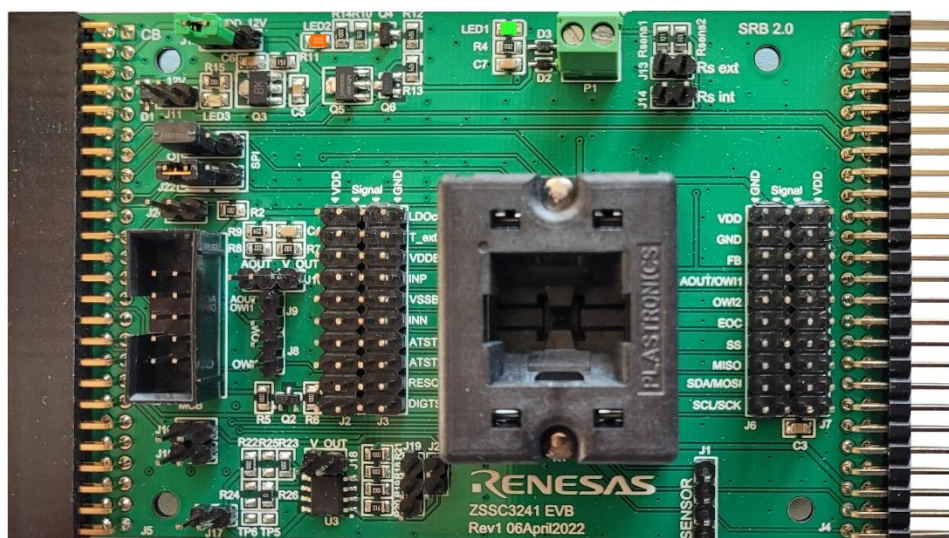
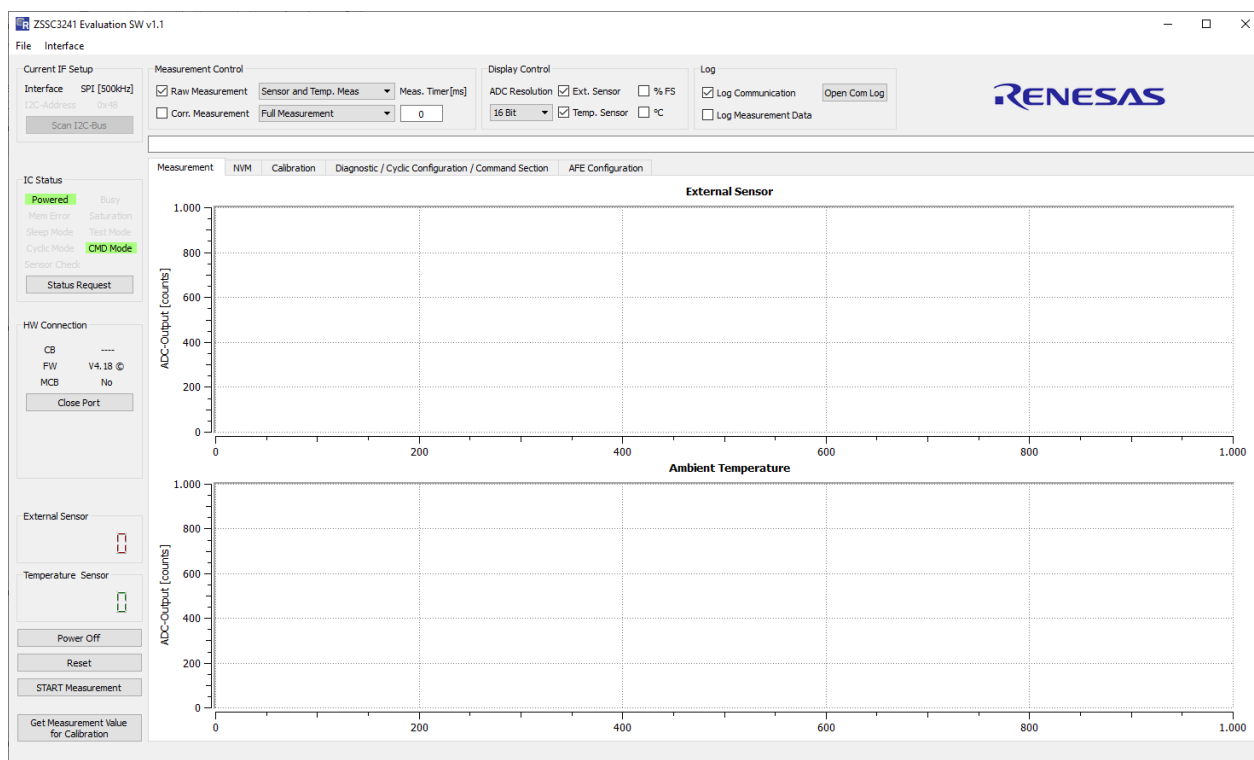

Figure 6. Evaluation Board LED Status after Starting GUI
Figure 7. Initial GUI Display
- Run the ZSSC3241_Evaluation_SW_vX.XX.exe from a local drive of the host PC to launch the GUI. If the GUI has established the connection to open the assigned virtual COM port, it powers the ZSSC3241 Evaluation Board from the CB with 5V and it configures SPI as initial communication interface. The power supply from KS5V rail of the CB is indicated by the green LED1 and orange LED2 (see Figure 6) on the EVB, and by highlighting the virtual LEDs **Powered** and **CMD Mode** on the *IC Status* section of the GUI (see Figure 7).